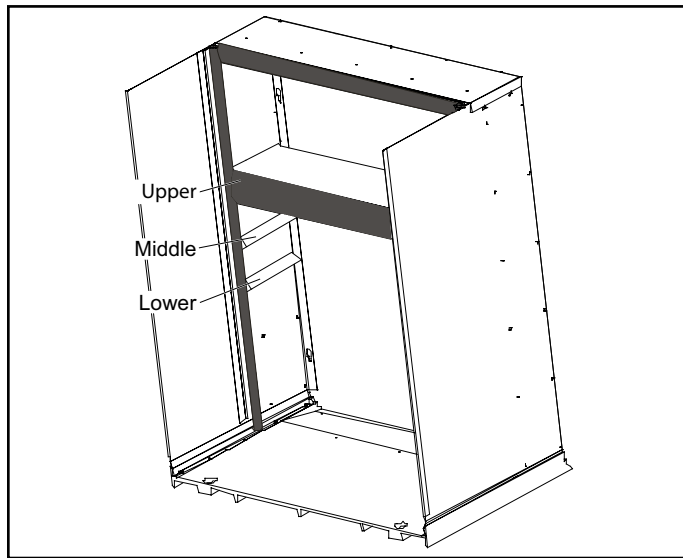
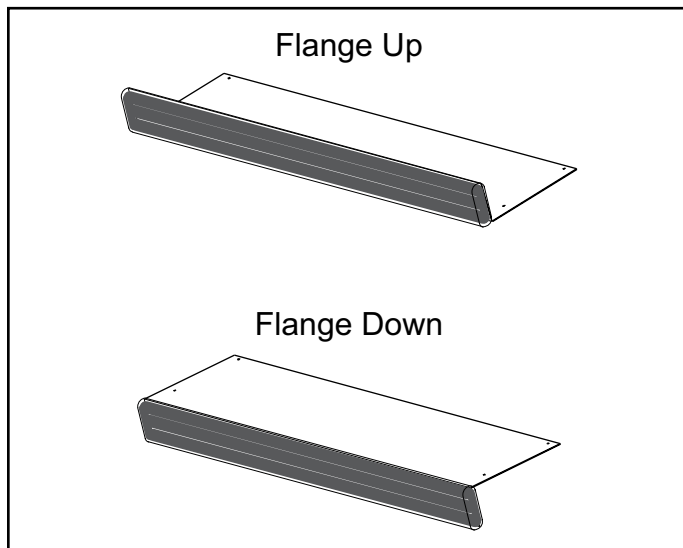

Figure 4. Installing Divider Panel
Figure 5. Divider Panel Orientation
- Use four sheet metal screws (two each side) to secure the divider panel to the shelves of each side panel. Divider panel must be installed in the proper position (angle up or angle down) as well as placed at the correct shelf height. See Table 1 for panel location and direction. See Figure 4 for shelf location. See Figure 5 for divider panel orientation. Divider panel must be installed before inserted into wall opening.